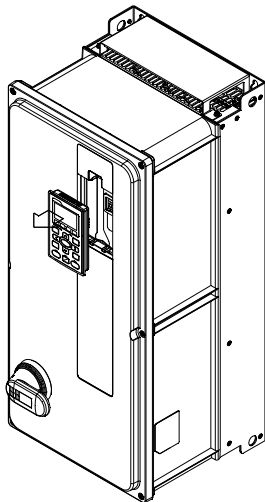

Figure 6-10
- 1) Remove the keypad. (As shown in figure 6-10)